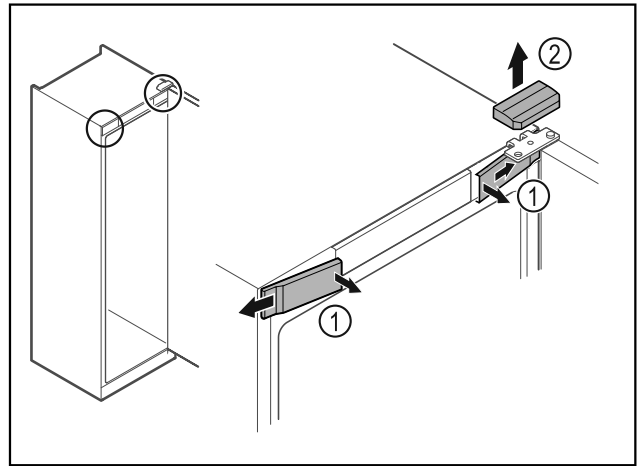

Fig. 8*
- Unlatch the front covers Fig. 8 (1) on the inside and remove them sideways.*
- Lift off the upper cover Fig. 8 (2).*